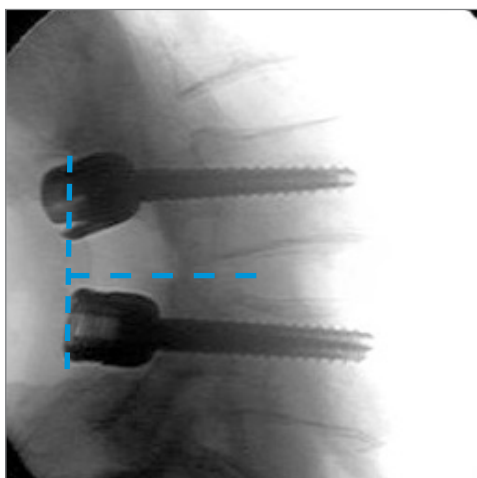

Figure 12: Lateral fluoroscopic image demonstrating screw alignment
- xi. Alternatively, use fluoroscopic guidance. When placing the contralateral screw, acquire a lateral fluoroscopic image to verify screw position. Superimpose the second contralateral screw with the previously placed screw in the same vertebral body, as shown in the image below (Figure 12).